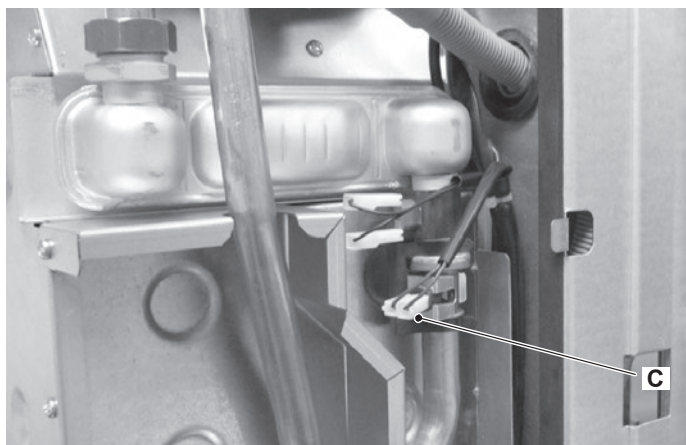

Figure 10.7
- 5 Disconnect the electrical connectors C of the C.H. temperature probe NTC in Figure 10.7.
- 7 Connect the electrical connectors C of the C.H. temperature probe NTC in Figure 10.7.